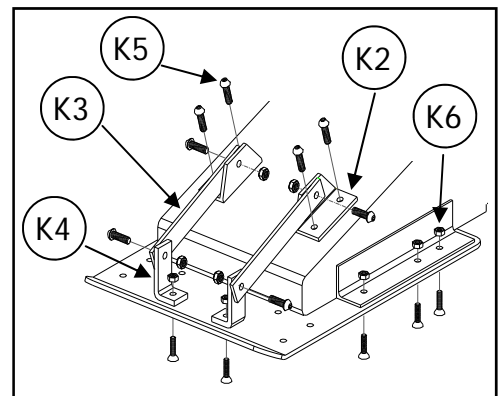

Figure 4
6. If the Capture Plate extends beyond the king pin box, then install the braces {K2-K4} as shown in Figure 4. These fasteners do not count as part of the minimum number of bolts required.
II. FOR KING PIN BOXES WITHOUT FLANGES: (Figure 4)
4. If the Capture Plate extends beyond the king pin box, then install the knee braces as shown in Figure 4.